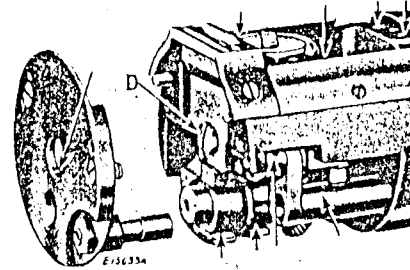
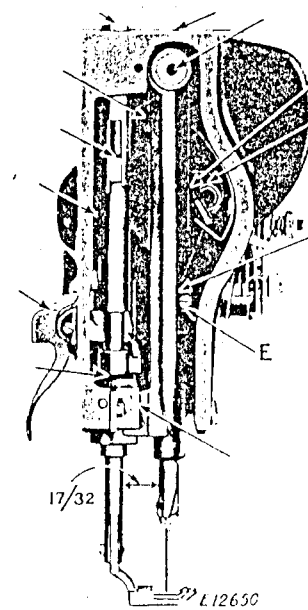

Fig. 4 Oiling Points and Adjustment in End of Cylinder
Fig. 5. Machine 153W102 and 154W101
Remove the cylinder end cover and apply oil to the places indicated in Fig. 4. Move the face plate aside and oil the wick and bearings shown in Fig. 5, then replace the face plate.
In case the needle bar is not correctly set, loosen the needle bar connecting stud pinch screw (E, Fig. 5) and place the needle bar in correct position as directed above, then retighten the screw (E).
The distance between the needle bar and presser bar, after turning the stitch regulator so that there is no feed movement, should be $17/32$ inch as shown in Fig. 5.